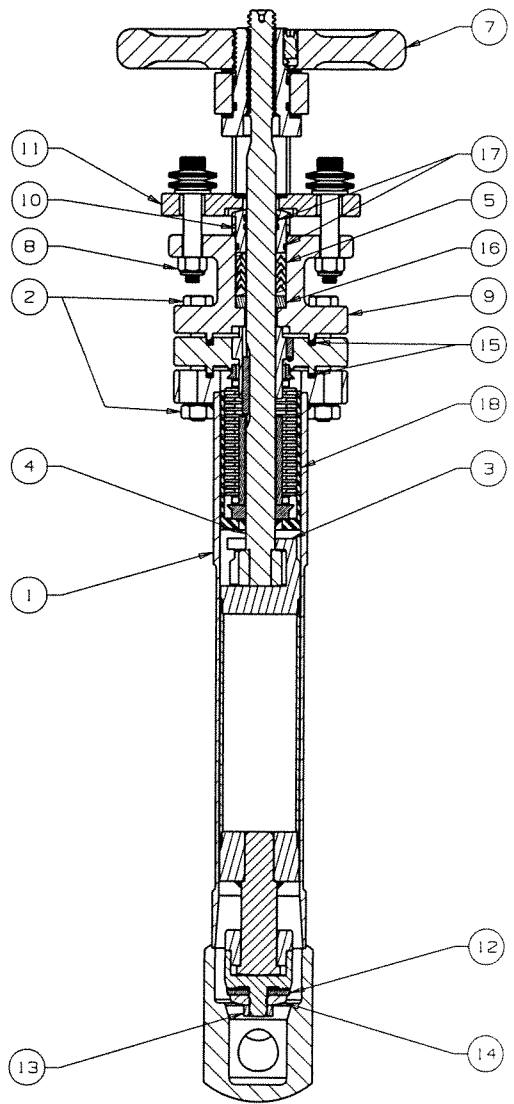

Figure 3 - OS&Y Bellow Seal Manual Valve
If present, the inner cylinder (3) can be detached by sliding it off the valve stem (4). In Manual OS&Y bellows seal ½" to 1" valves, slide the Teflon sleeve (18 in Fig. 3) off the bellows after removing the inner cylinder. NOTE: The 3000 and 6000 series valves do not contain an inner cylinder.
Replace the existing bonnet gasket (15) in the valve body assembly. Use care when extracting the existing bonnet gasket to preserve the surface finish of the groove. For Manual OS&Y Bellows Seal ½" to 1" valves, replace the Teflon sleeve (18 on Fig. 3) onto the bellows.